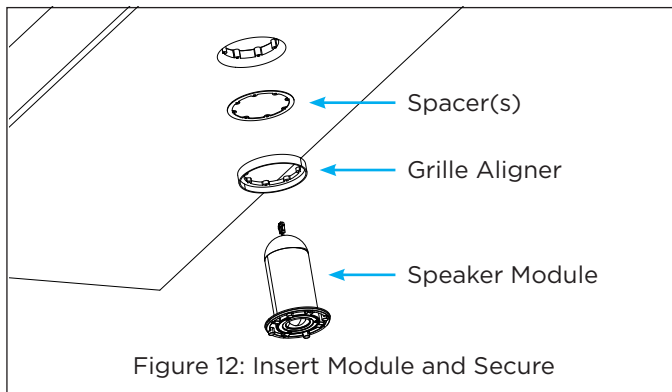

Figure 12: Insert Module and Secure
3. Connect the 2-pin connector from the enclosure opening to the 2-pin connector on the back of the speaker module, including the aligner and spacer stack. **Make sure that the connector orientation is correct.** Insert the speaker module into the opening and secure the speaker module to the enclosure using four screws (see Figure 12).